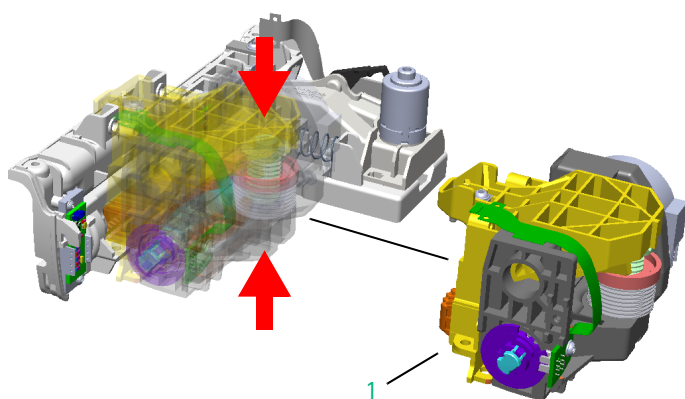

Fig. 3 - 34
12. If the ESD wire has to be exchanged, remove the lug terminal from the screw (Fig. 3 - 33 / Item 3).